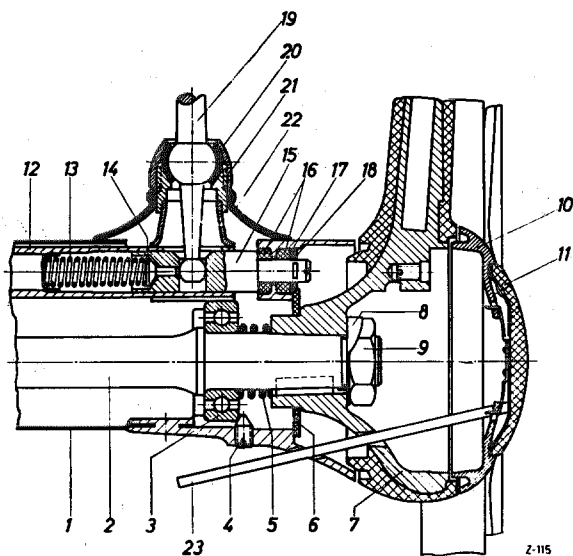

Fig. 46 — 1/3
11. Place the upper clamping screw (5) in the steering coupling and tighten up with hexagon nut and lock washer (see Fig. 46 — 1/2).